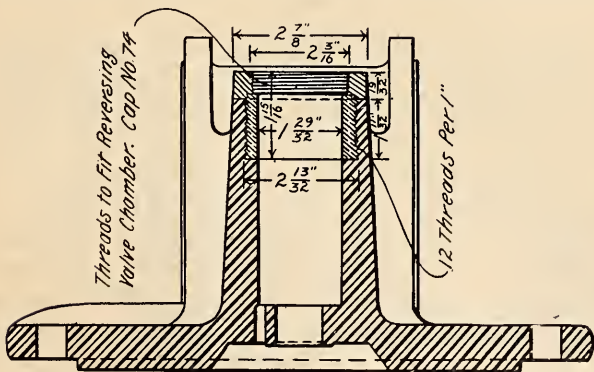

FIG. 1—METHOD OF BUSHING REVERSING VALVE CHAMBER OF 9 1/2-IN. AIR PUMP.
**S**UGGESTIONS in the practice of economy are always of interest and means by which savings may be made, even in repairs of small parts, never fail to be appreciated. Mr. H. F. Cuning, foreman of the air brake department, Roanoke shops of the Norfolk and Western Railway, has kindly sent us two blue prints illustrating practices in repairing 9½-inch air pumps which he has used to advantage. These are shown by Figs. 1 and 2, in which Fig. 1 represents the method of bushing reversing valve chamber and Fig. 2 method of bushing main valve bush.
valve when it may have become stuck. The threads by which this cap is held are rather fine and the practice of hammering strips or breaks the thread and as this rough treatment is of very frequent occurrence a number of top heads have been thrown away in consequence. To obviate this loss Mr. Cunning has devised the method here shown in Fig. 1 for saving the head. The plan is to bore out the chamber to the depth of 1 11-32 inches and apply a brass bushing of the form shown by the illustration. The top portion of the bushing is threaded, to a depth of 1/2 inch, to fit the reversing valve chamber cap which is designated in the Westinghouse catalogue as No. 74. After the bushing is screwed into position a light cut is taken to true up the chamber for the reversing valve bush. As the latter is made large to allow repair men to turn to fit, a light cut taken through the chamber does not make any difference. The port by which the main valve chamber and the reversing valve chamber are connected and which is usually referred to in plates of the Westinghouse 9 1/2-inch air pump as "e," is drilled after bushing is in position. This port is 5-16 of an inch in diameter, and is not included in the drawing. The outside hole through which the port is drilled is tapped out with a 3/8-inch standard tap, and plugged up. The face of the reversing valve cap is carefully scraped to seat upon the brass bushing and the reversing valve bushing. Within eight months 25 top heads have been saved by the method here described. It had heretofore been the practice to scrap these old heads, and the saving thus made can be readily appreciated. The cost of labor and material will not exceed \$1.00 per head, and in con-